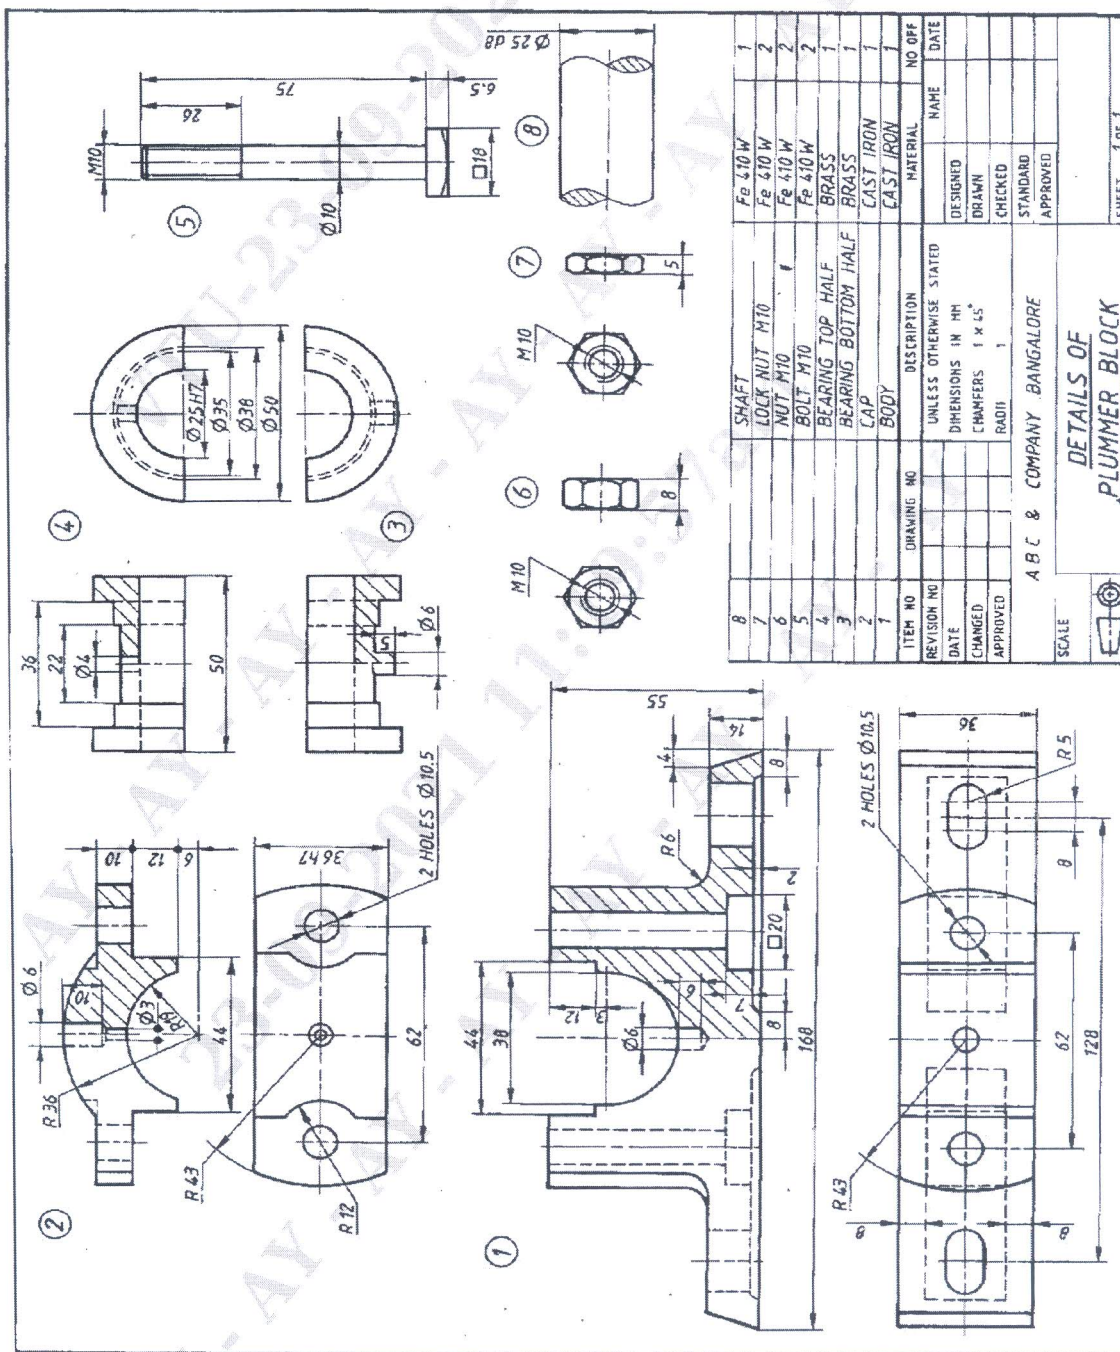

Figure 2: Details of Plummer block
**Q.No.5** Figure 2 shows the details of a Plummer block. Assemble the parts of the Plummer block and show the following views.